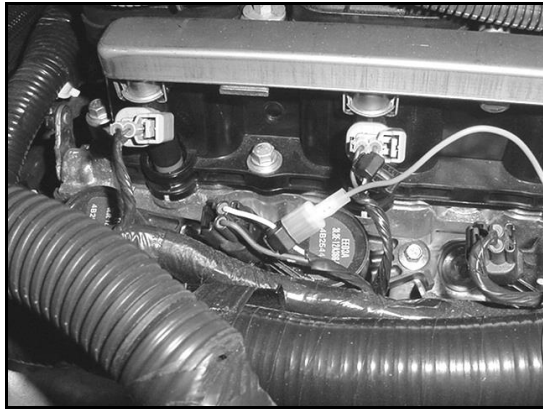

Figure 10
9. Connect the tan wire of the WOT/Window Switch to the ignition coil signal wire or tach output wire using the T-tap provided, as shown in **Figure 10**. See **Section 2.11**.